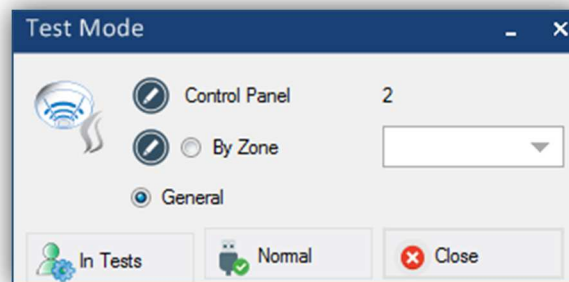

Figure 55. Activation menu of Test Mode in a control panel.
- The Figure 55 shows the menu to activate the Test mode of a control panel. To access to the